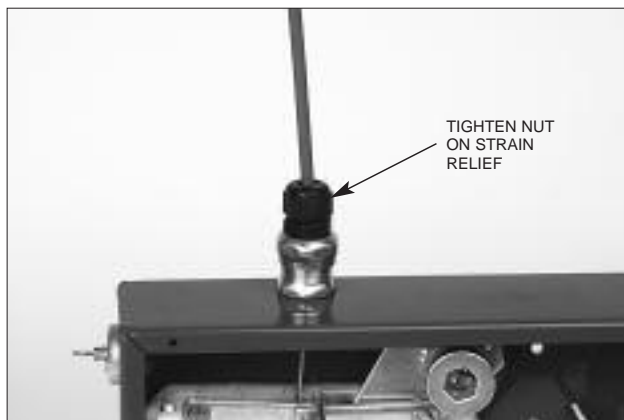

FIGURE 10
10. Tighten the strain relief nut onto the strain relief. See Figure 10.